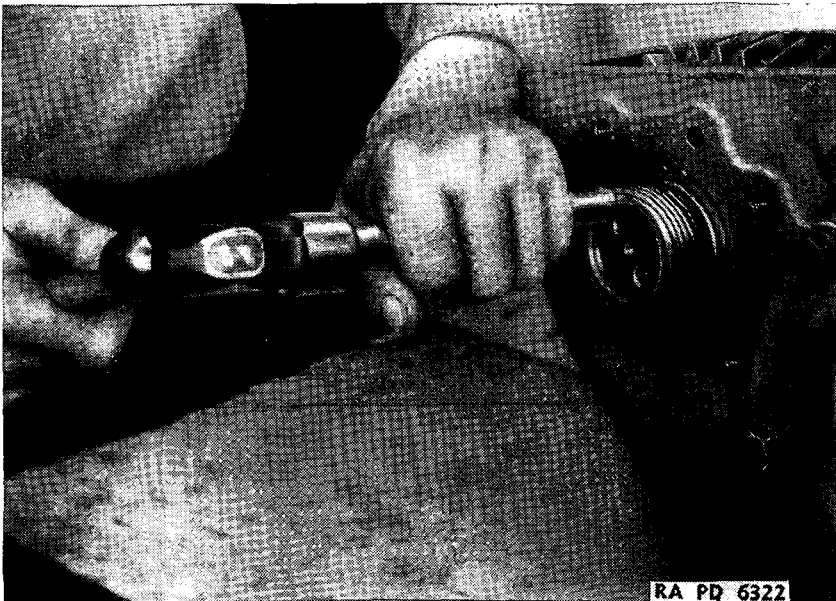

FIGURE 140.—Speedometer drive gear replacement.
(17) Replace speedometer drive gear—brass drift, hammer, $\frac{9}{16}$ -inch socket wrench, pliers. Replace Woodruff key and drive speedometer drive gear on rear end of front-drive shaft (fig. 140). Replace retaining washer, two cap screws, and locking wire.
(18) Assemble front-drive shaft rear bearing cap—brass drift, hammer, $\frac{7}{8}$ -inch open end wrench. Replace bushing in cap and replace speedometer driven gear and sleeve.